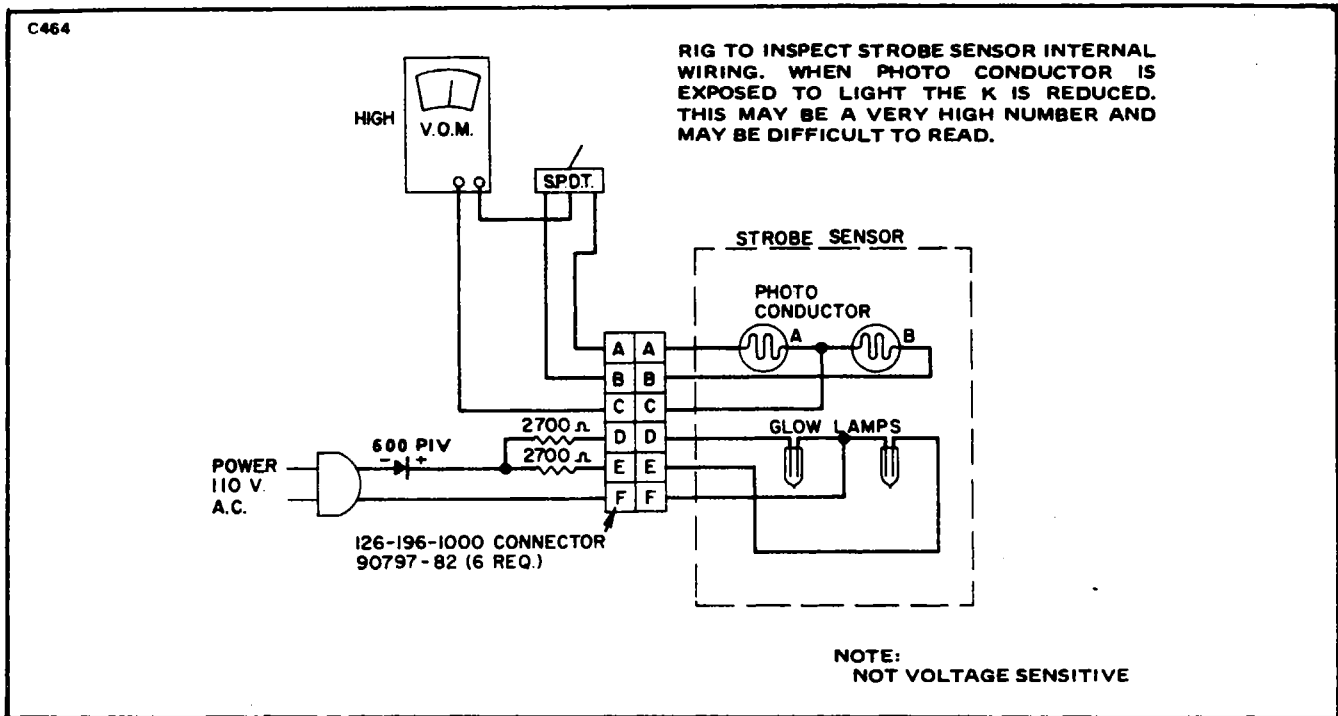

Figure 14-44. Strobe Sensor Internal Wiring Test Unit
- (a) Connect the fabricated strobe sensor tester (Refer to Figure 14-44) to the strobe sensor plug in the right nacelle.